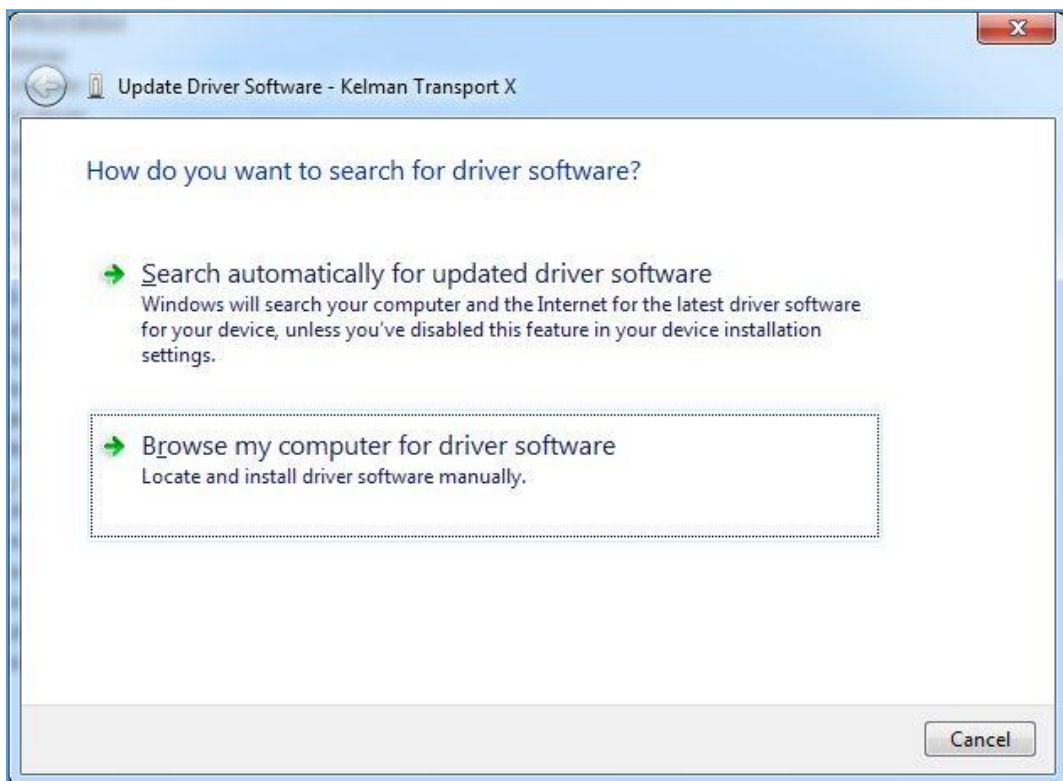

Figure A-11: Update Driver Software - Kelman Transport X
- On the next screen, select **Browse my computer for driver software** as shown in Figure A-11.